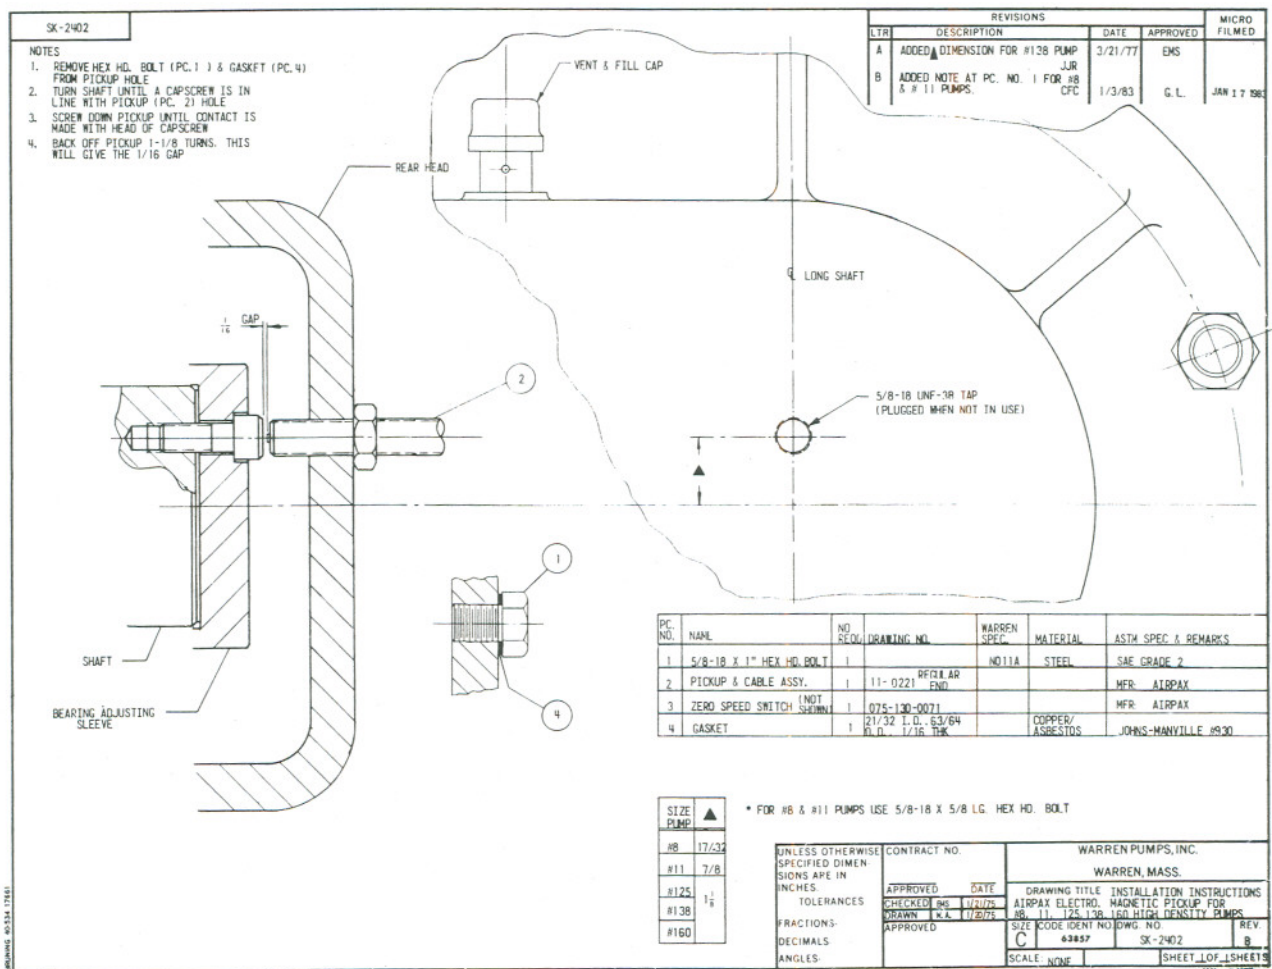

Fig. 3-5.4
b. **Pick-Up Installation and Setting** — (see fig. 3-5.4)